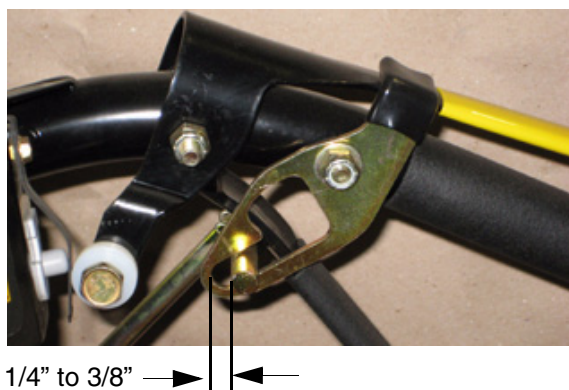

Figure 6
6. The steering control rods on each side of the handle assembly should initially be adjusted so that there is about a 1/4" to 3/8" space between the rod and the bottom of the slot in the neutral latch lever with the latch in the drive position (See Figure 6.) To make this adjustment, remove the large hairpin from the swivel joint at the bottom of each steering control rod and thread the swivel joint up or down the rod as needed.